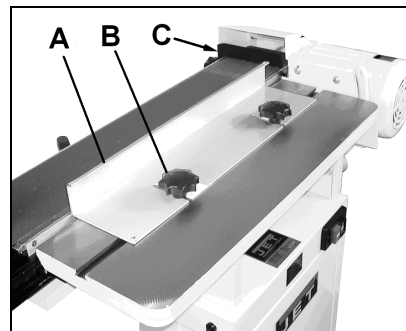

Fig 7
With the sanding platen locked in the horizontal position, the removable fence (A, Fig. 7) may be used. The fence can be secured in place by screwing two lock knobs (B) into the guide blocks found in the mitre slot.